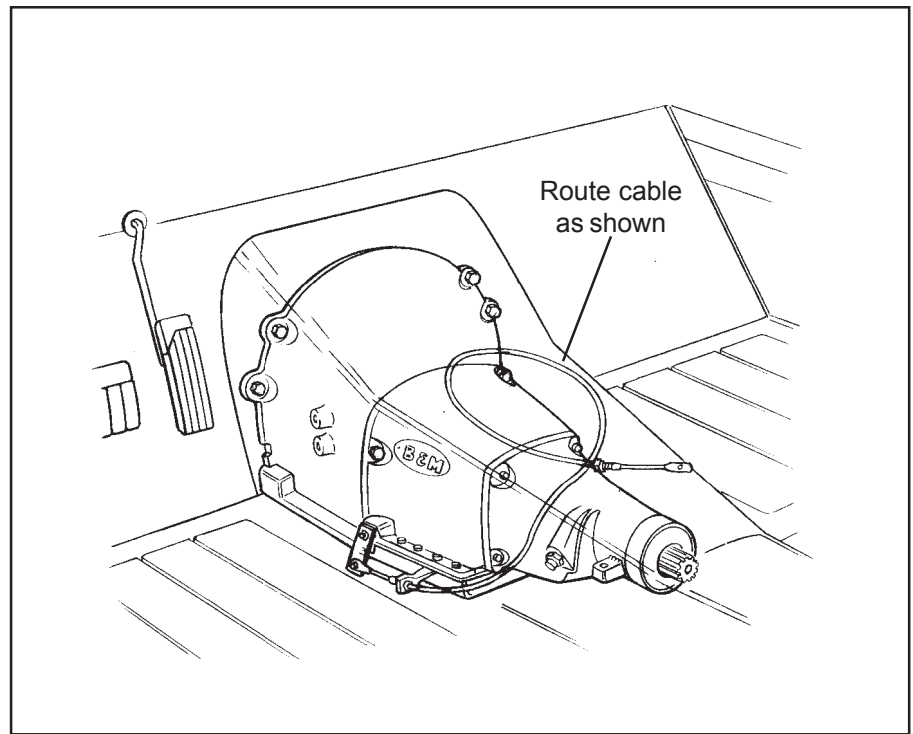

Figure 2
**STEP 4.** Route the shifter cable according to **figure 2** Avoid kinks and sharp bends and route the cable away from hot engine or exhaust parts.